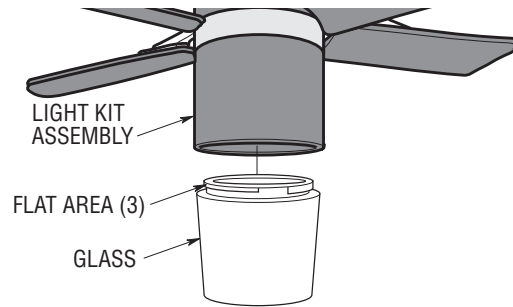

Figure 19
2. Place the glass onto the light kit assembly aligning the three flat areas on the top flange of the glass with the three pins on the inside of the assembly (Figure 19). Then turn the glass clockwise until it stops turning.